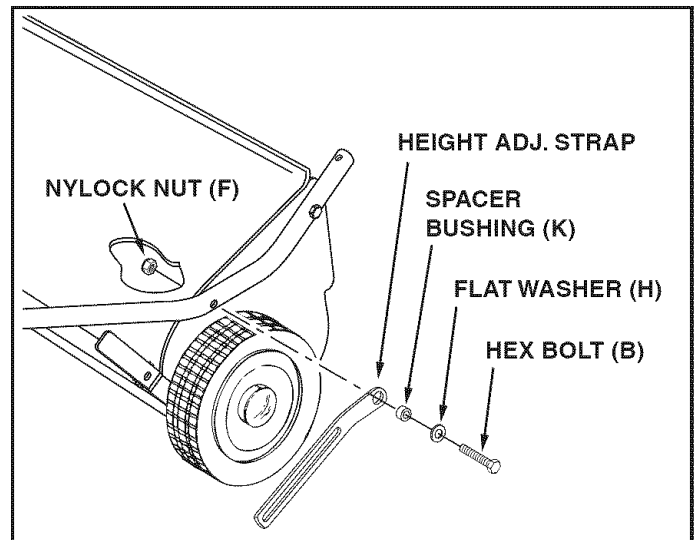

FIGURE 3
- Attach the height adjustment strap to the hitch tube using a hex bolt (B), the spacer bushing (K), a flat washer (H) and a nylock nut (F). **Do not tighten yet.** See figure 3.